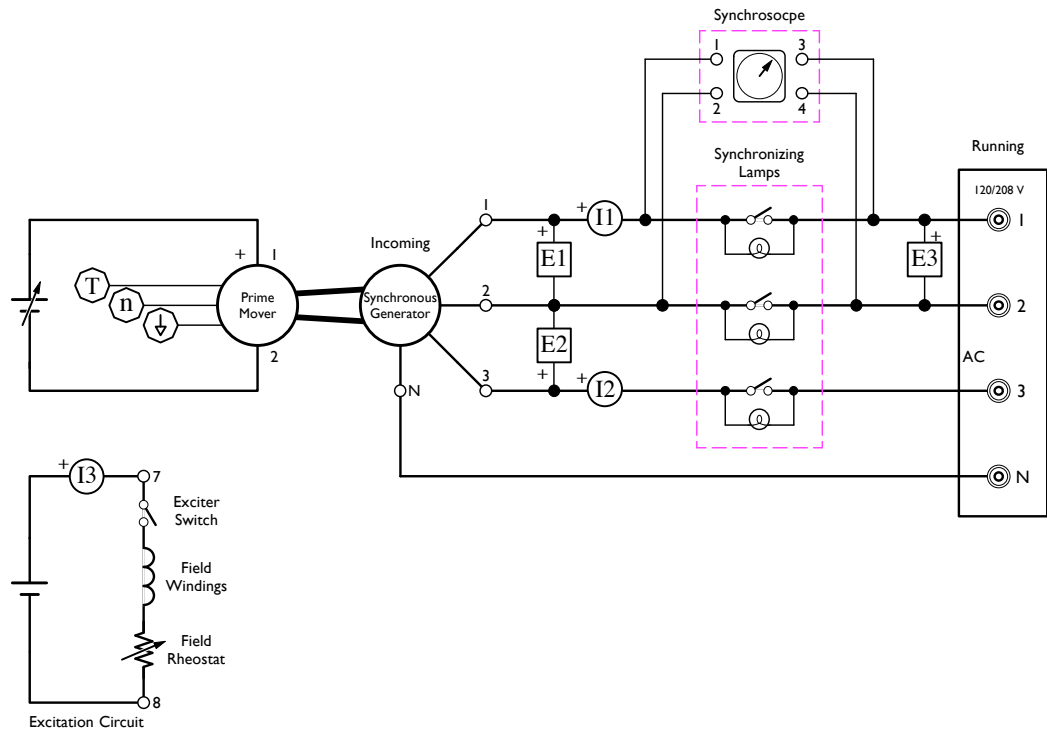

Figure 6.1: Synchronous Generator Paralleled with the AC Power Network
- 8. Connect the equipment as shown in the Figure 6.1.